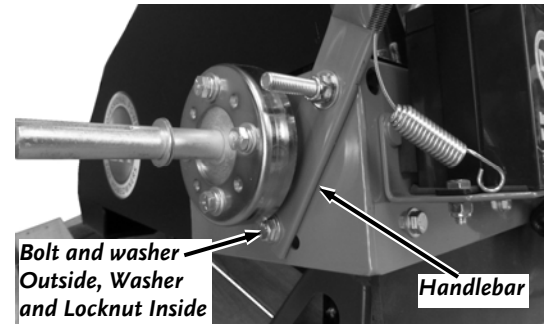

Figure 10
12. At the bottom hole, install a 3/8-16 x 1-1/4" Bolt with Washer (Handlebar side) and Locknut (inside Frame) (**Figure 10**). Secure with two 9/16" Wrenches.